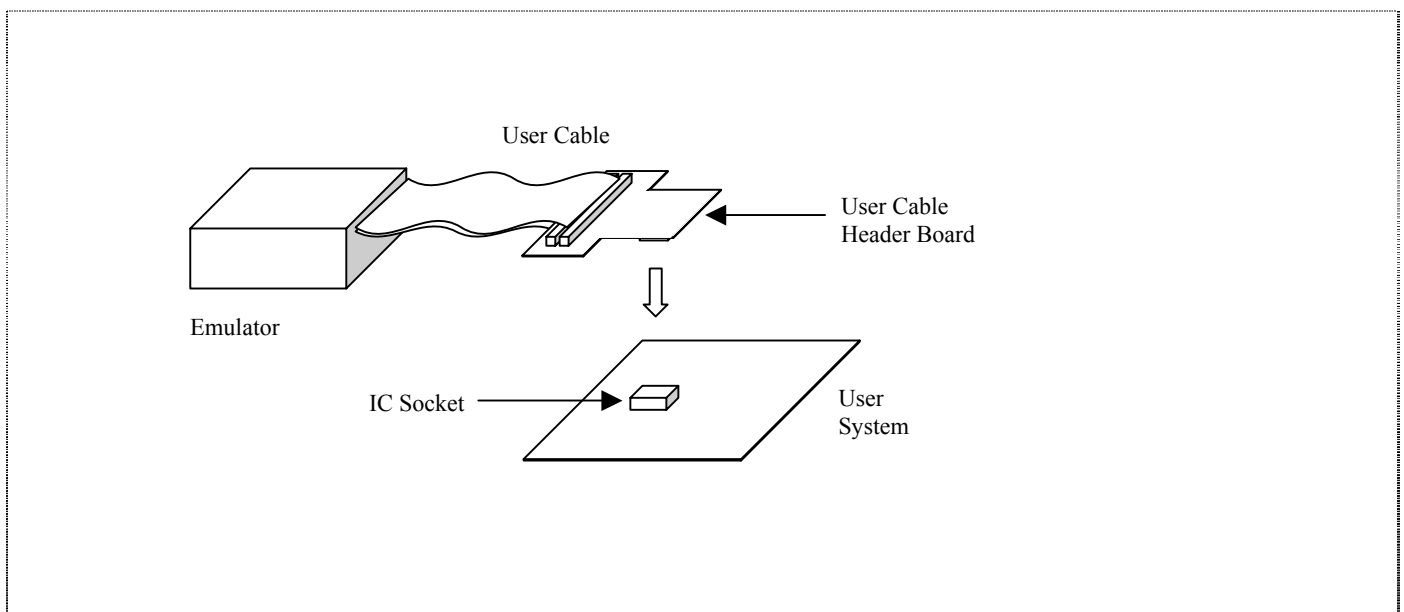

Figure 2.1 Connect User System Interface Cable to the Emulator
- Align the connectors on the cable body with those on the emulator according to the specified number, insert the cable body connectors to those on the emulator until they are locked. Refer to figure 2.1.